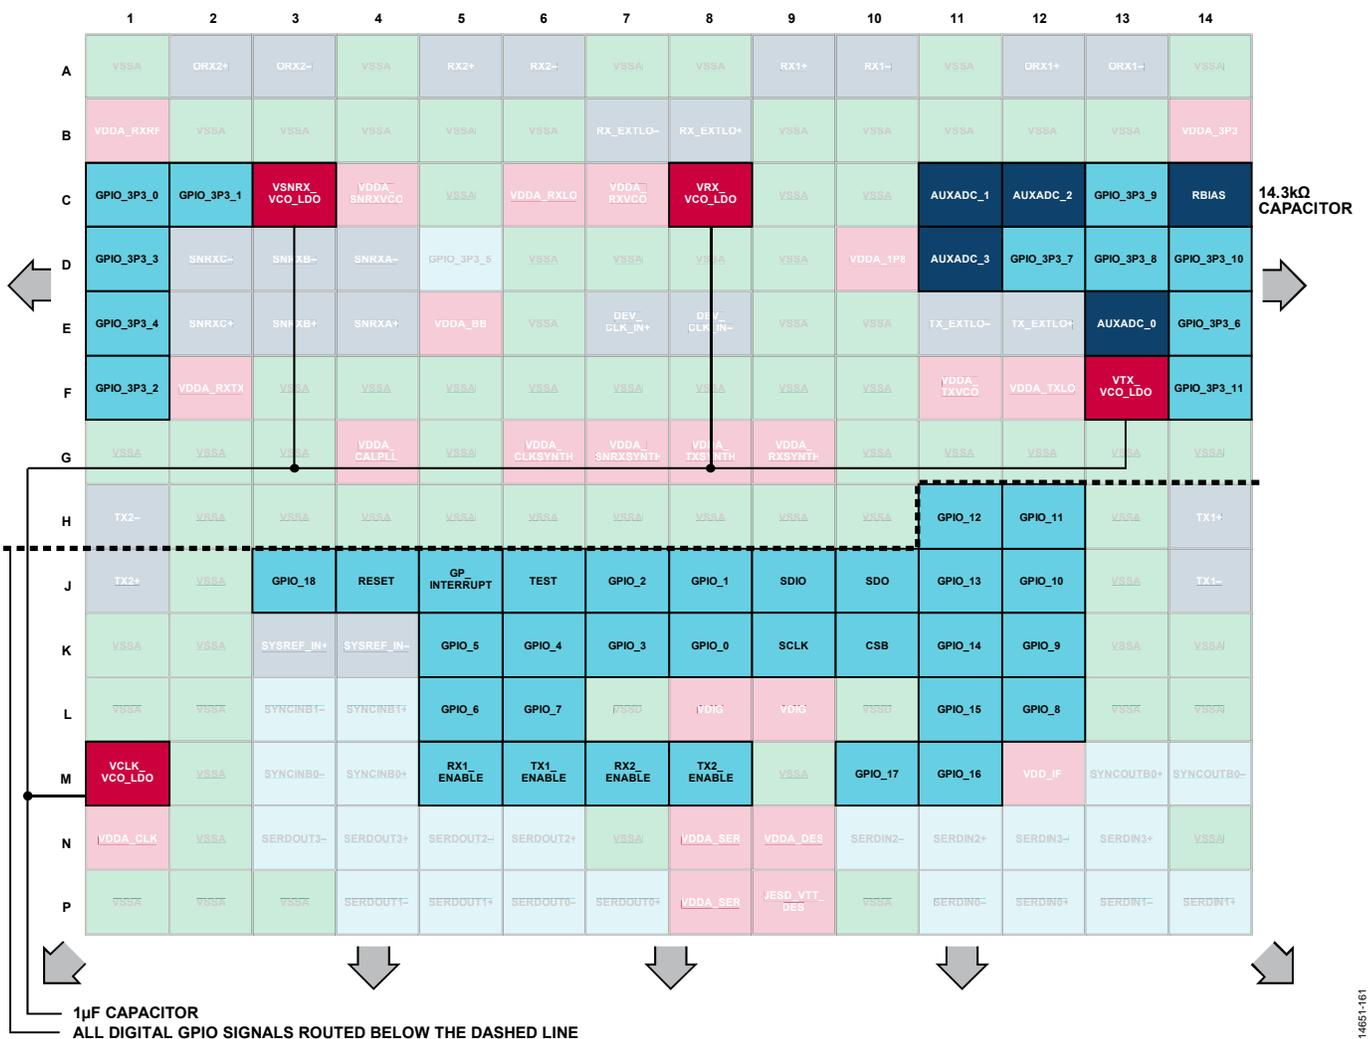

Figure 161. Auxiliary ADC, SPI, Analog GPIO/Auxiliary DAC, and Digital GPIO Signal Routing Guidelines
The following guidelines govern those signals that are the lowest signal routing priority. These signals can be routed after all critical signal routes have been completed so that they do not interfere with the critical component placement and routing. The signals shown in Figure 161 can be routed with the lowest priority.
- When routing digital signals from Row H and under, it is important to route them away from the analog section (Row A through Row G). It is recommended that digital signal routing not pass before the dashed line highlighted in Figure 161.
- The GPIO\_3P3\_N signals can be routed using inner PCB layers. Those signals control analog blocks such as power amplifiers or low noise amplifiers. They can also be used as general-purpose analog outputs when muxed to the internal auxiliary DAC outputs. To prevent noise coupling into those signals, route them away from the digital region (before the dashed line highlighted in Figure 161).
- The AUXADC\_N signals can be routed using inner PCB layers. Those signals sense analog voltage levels such as temperature sensors. To prevent noise coupling into those signals, route them away from the digital region (before the dashed line highlighted in Figure 161).